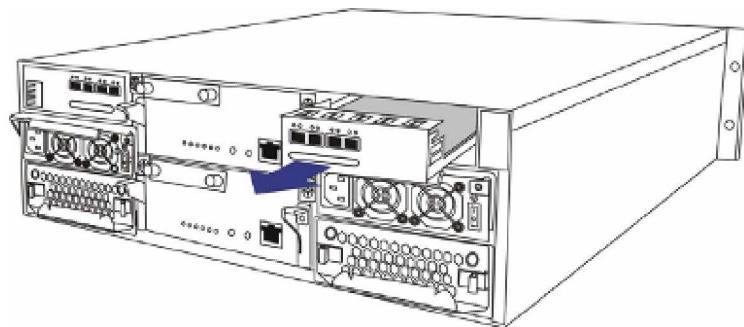

Figure 5-15: Removing the Host Connection Module
Step 3. *Pull out the faulty host connection module* and place it on a clean surface. (See *Figure 5-15*)